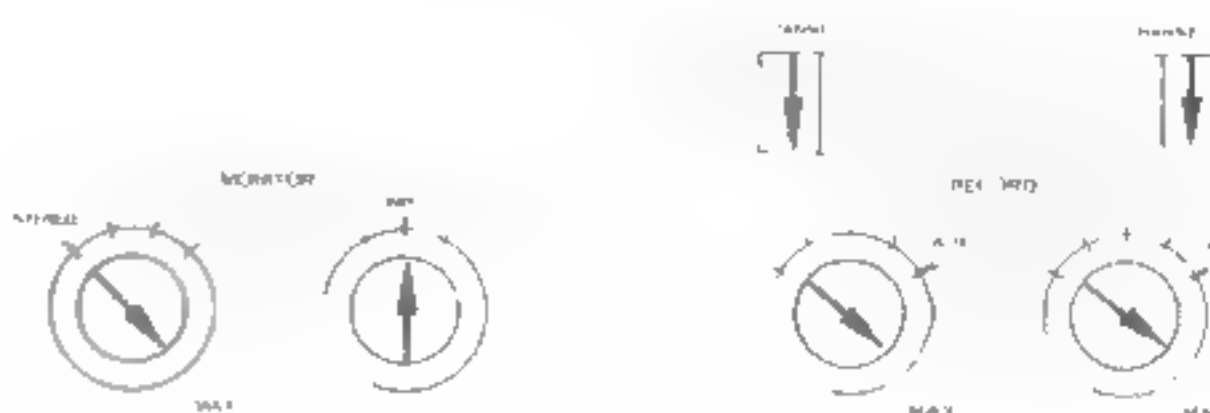

Fig. 6.3—52
- Set controls per fig. 6.3—52
- Set controls per fig. 6.3 –53.
- Switch to PLAY and set output voltage to a maximum with screw C (fig. 6.3 –54).
- Set controls per fig. 6.3 –56.
- Set output voltage 2 V with trimpot REPR LEVEL CH1 (fig. 6.3 –57).